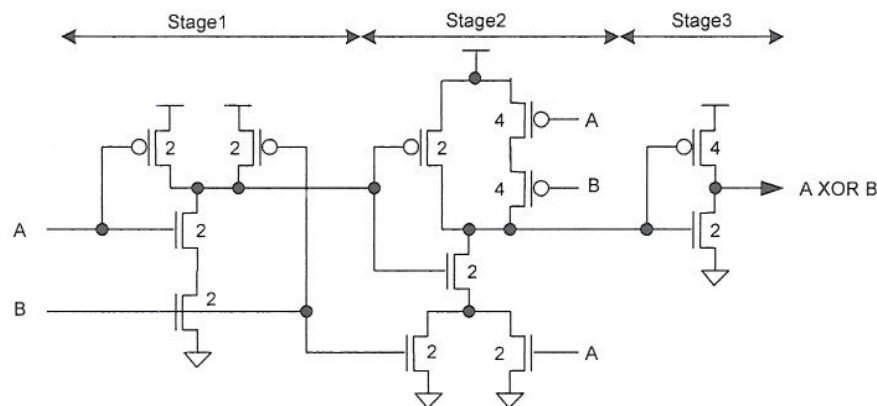

Figure 5.1
- b) Figure 5.1 shows the circuit of a static CMOS XOR gate. All transistors are of length 2λ . The number adjacent to each transistor indicates its width in λ units. Using the method of Logical Effort estimate, in terms of the number of unit inverter delays, the delay from A or B input to the XOR output. Assume that the loading on the output is equivalent to 10 standard inverter loads where a standard inverter is assumed to have pull-up and pull-down transistor widths of 4λ and 2λ respectively. You may ignore the effect of parasitic capacitances.